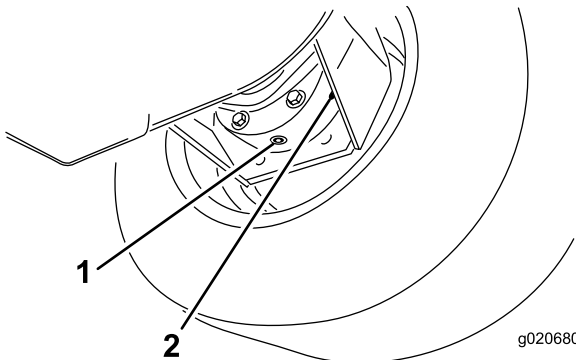

Figure 70
3. Place a drain pan under the brake housing, remove the drain plug, and allow the oil to drain (**Figure 70**).